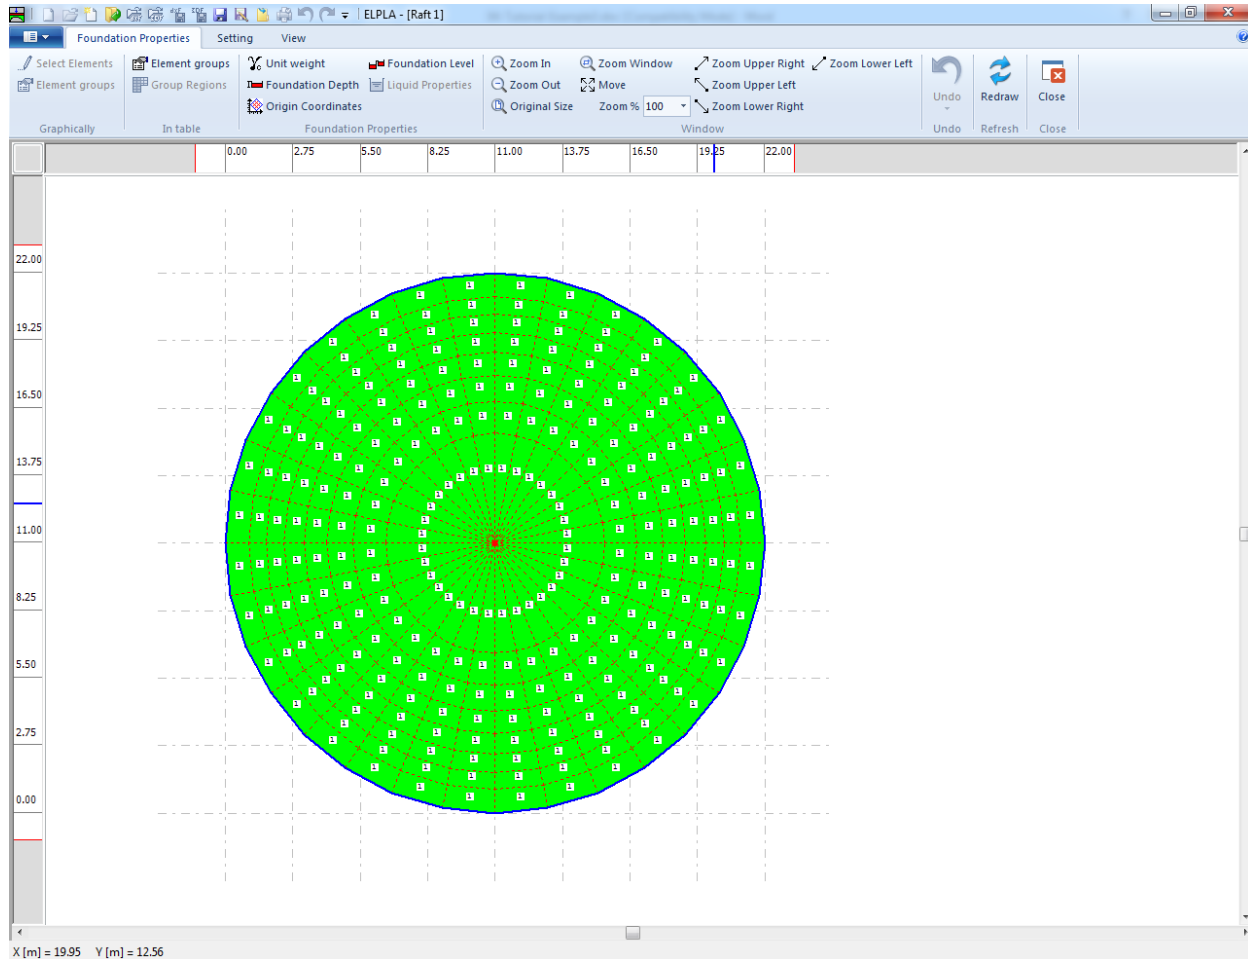
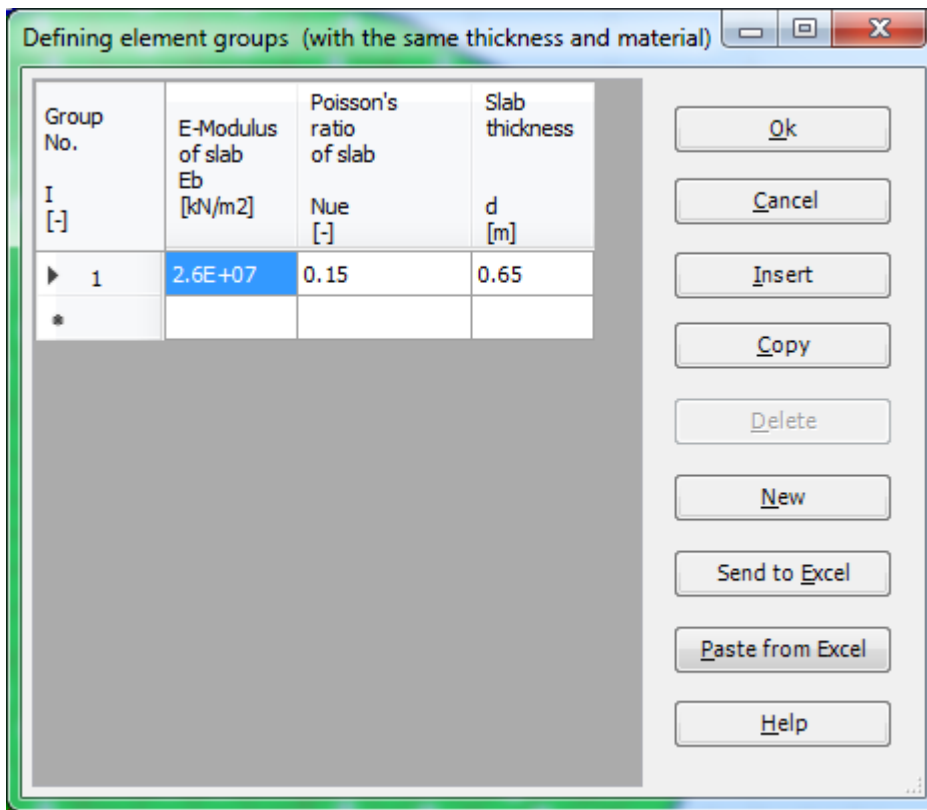
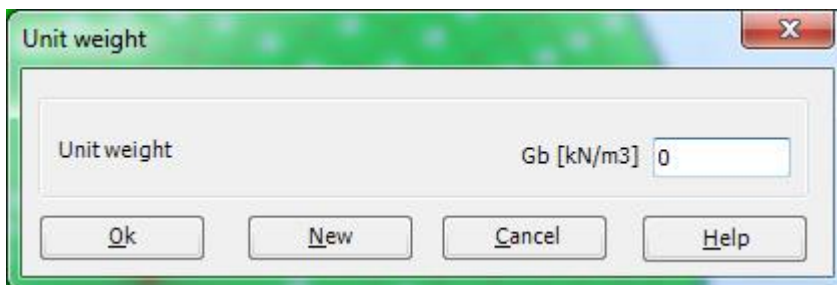

Figure 3.20 "Foundation properties" Window
Figure 3.21 "Defining element groups" list box
Figure 3.22 "Unit weight of the foundation" dialog box
To define the foundation properties, choose "Foundation Properties" command from "Date" Tab. The following Window in Figure 3.20 appears with default foundation properties. The data of foundation properties for the current example, which are required to define, are raft material and raft thickness. Any other data corresponding to foundation properties in the program menus are not required. Therefore, the user can take these data from the default foundation properties.
- Choose "Element groups" command from "In Table" menu in the window of Figure 3.20. The following list box in Figure 3.21 with default data appears. To enter or modify a value in this list box, type that value in the corresponding cell, then press "Enter" key. In the list box of Figure 3.21 enter E-Modulus of the raft, *Poisson's* ratio of the raft and raft thickness
- Choose "Unit weight" command from "Foundation properties" menu in Figure 3.20. The following dialog box in Figure 3.22 with a default unit weight of 25 [kN/m³] appears. To neglect the self-weight of the raft in the analysis, type 0 in the edit box "Unit weight of the foundation"
- Choose "Save" command from "File" menu in Figure 3.20 to save the foundation properties
- Choose "Close" command from "File" menu in Figure 3.20 to close the "Foundation Properties" Window and to return to the main window